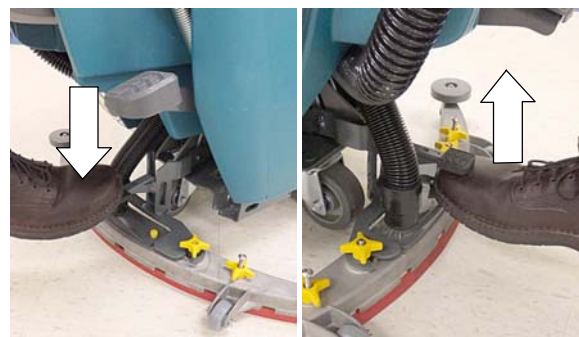

FIG. 65
5. Lower the squeegee assembly to floor by stepping on foot pad as shown (Figure 65). To raise squeegee assembly, place toe under foot pad and lift. The vacuum motor will start when squeegee assembly is lowered.